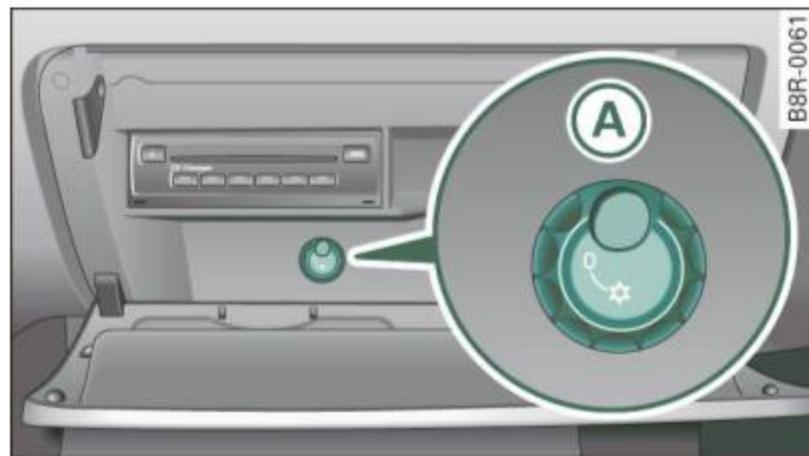

Fig. 100 Glove box with cooling box open and switched on
- Turn the rotary switch **A** counter-clockwise to switch the cooling on. The symbols on the rotary switch must be displayed ⇒ fig. 100 accordingly.